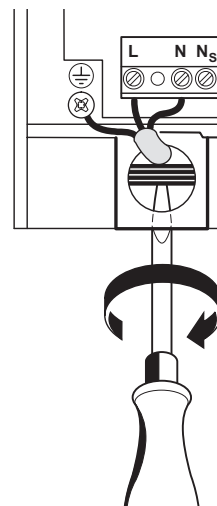

Fig. 29
- ▶ Feed cable through cable grommet and connect the mains supply cable, see fig. 29.